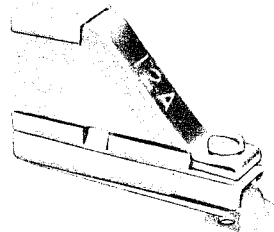
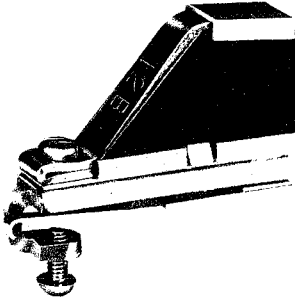
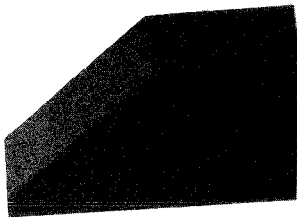

Fig. 14 – 12A Guard
Fig. 15 - 12B Guard
Fig. 16 - NS20353 L1
**4.01** Common protective devices used on special service circuits are shown in Fig. 1 through Fig. 15.
4.09 The 12A guard, Fig. 14 is a metal framework covered top and bottom with insulating material, and provided with a latch spring, which must be deflected to remove guard. It is designed for use on 444 type jacks and is now Manufactured Discontinued. (Superseded by NS20353 L1 Fig. 16)
4.10 The 12B guard, Fig. 15 is the same as the 12A guard except it has a locking screw for maximum security. It is also Manufactured Discontinued. (Superseded by NS20353 L1 Fig. 16).
4.11 The NS20353 L1 guard consists of a red plastic insulator detail, Fig. 16, provided with a snap lock fit for security. This guard is designed for use on 444 type jacks, and supersedes the 12A and 12B guards.